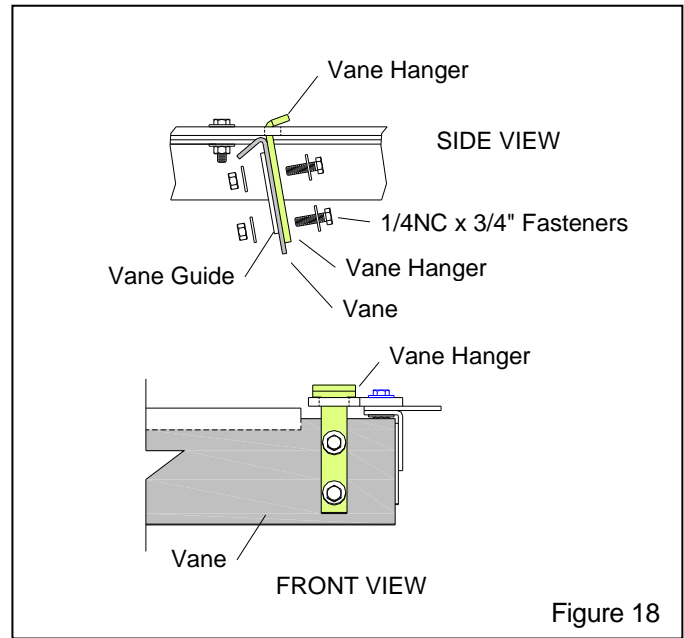

Figure 18
2.7.3.4 Refer to the cross drive drawings and illustration in Figure 18 to make sure the vanes and hangers are placed in front of the sloping vane guides. When correctly installed the vane rest against the sloping guide and freely pivots forward.